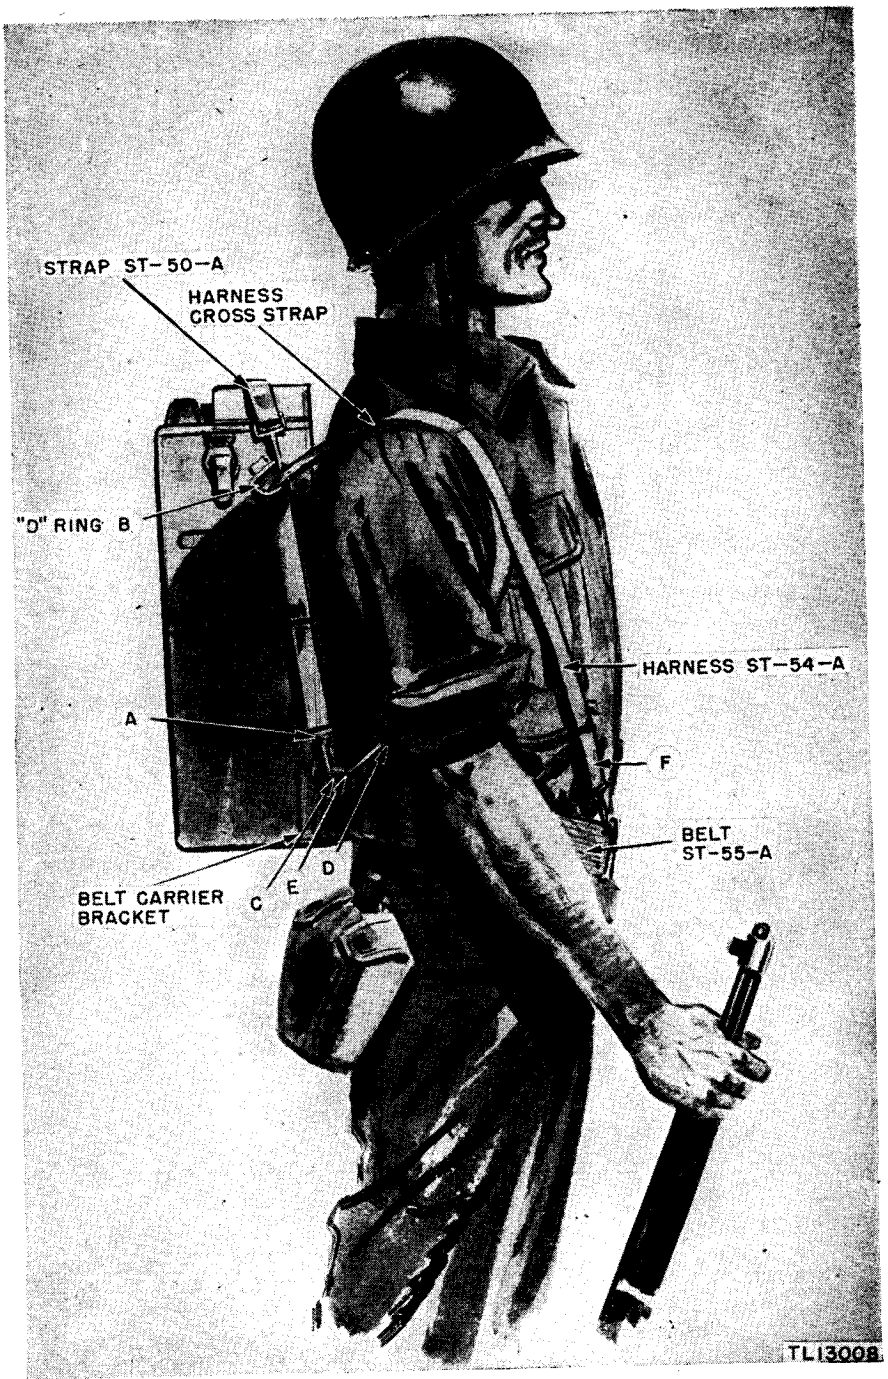

Figure 13. Radio Set SCR-300-A, Harness ST-54-A and Belt ST-55-A, installation detail.
c. **HARNESS ST-54-A.** Slip the snap hooks ④ and straps (one each side) through the "D" rings ⑤ and clip to the center hole ③ of the belt carrier bracket. (See fig. 13.) Attach the other ends ⑥ of these same straps to the holes ⑥ (farthest away from the set) of the belt carrier bracket. Be certain that the snaps are not twisted. The other straps ⑦ with snap hooks are left free until the set is placed on the operator's back. Slide buckles on all straps provide length adjustments as required.
d. **STRAP ST-50-A.** To install this strap, connect the two snap hooks to the D-rings ⑤ as shown in figure 13. When it is necessary to
The equipment is mounted on the operator's back (fig. 13) as follows: